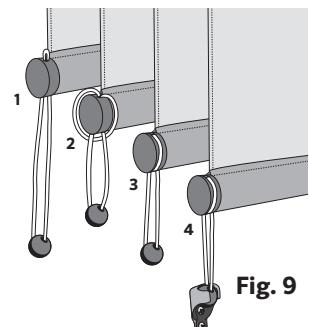

Fig. 9
- B. Thread the Bungee through the End Cap hole on the shade and feed the ball end back through the loop to make a knot (**Fig. 9**).